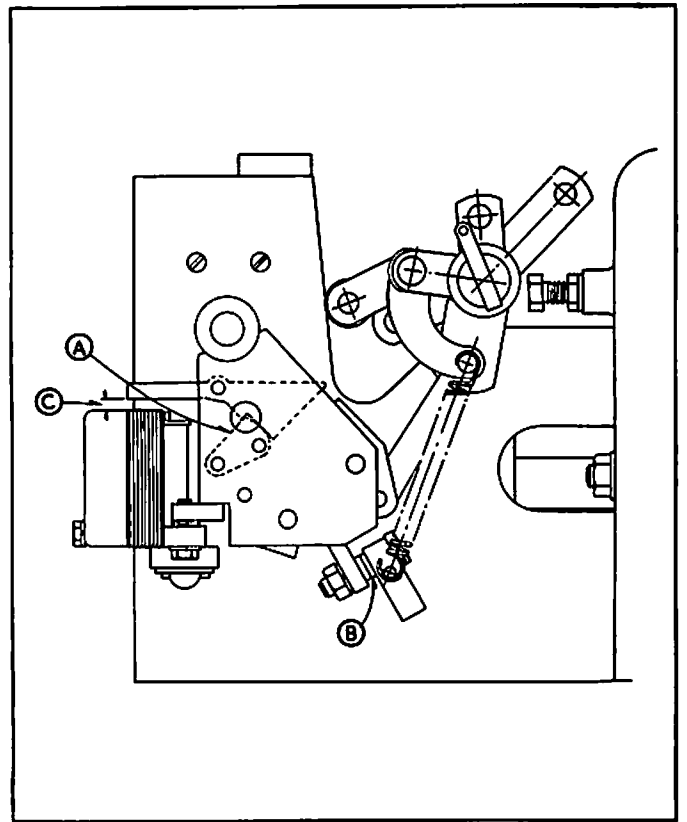

FIGURE 24
7. Fig. 24-A - Latch rotates and permits toggle to collapse when armature is depressed.
9. Varying number of spacers will adjust position of latch-roller to closing lever. Fig. 24-B.
14. $3/8$ " or enough gap to insure tripping. Fig. 24-C.